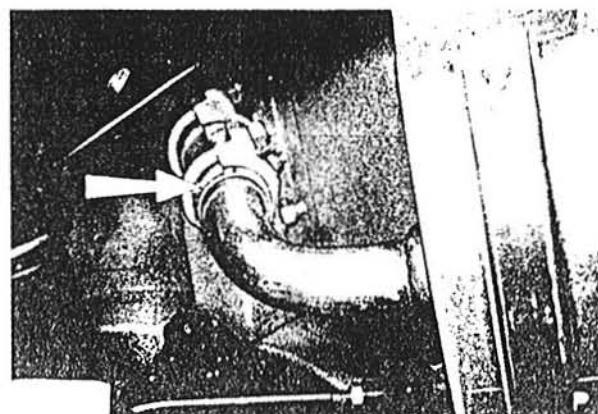

Fig. 3.30 Fitting the service sleeve to the exhaust system – arrowed (Sec 21)
- 12 Slide a service sleeve (Fig. 3.30) onto the resonator pipe, positioning its end in line with the scribed mark made previously.